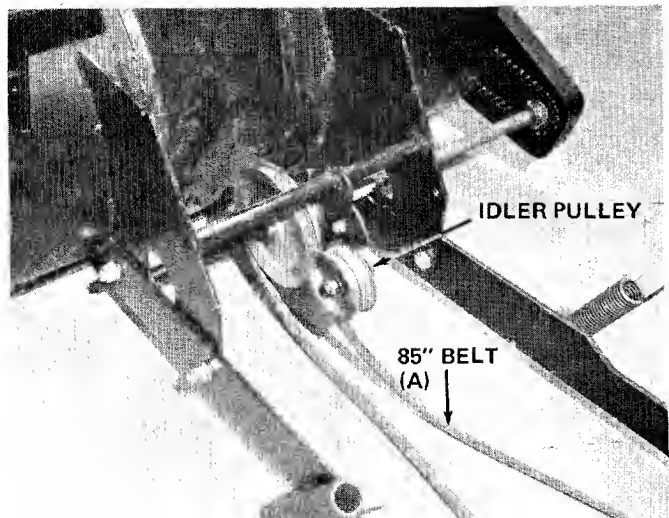

FIGURE 8
8. Place the 85" belt (A) in position on the idler of the snow thrower as shown in figure 8.
22. Roll the lawn tractor over the snow thrower and attach the free end of the 85" belt to the pulley on the idler assembly. Be sure to twist the belt so that the top of belt coming off the idler goes toward the left side of unit. See figure 8.